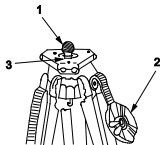

Figure 4. M24 Tripod w/Cover Assembly Removed
1. Unscrew the screw assembly (Figure 4, Item 1) and remove tripod cover assembly (Figure 4, Item 2) from tripod head (Figure 4, Item 3).